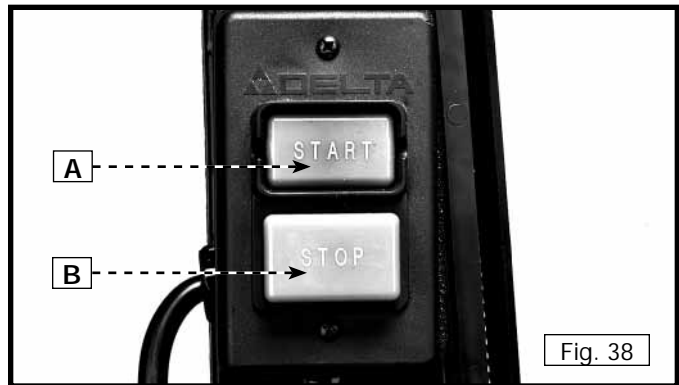

Fig. 38
1. The on/off switch is located on the left side of the machine. To turn the machine "ON", push the green start button (A) Fig. 38.